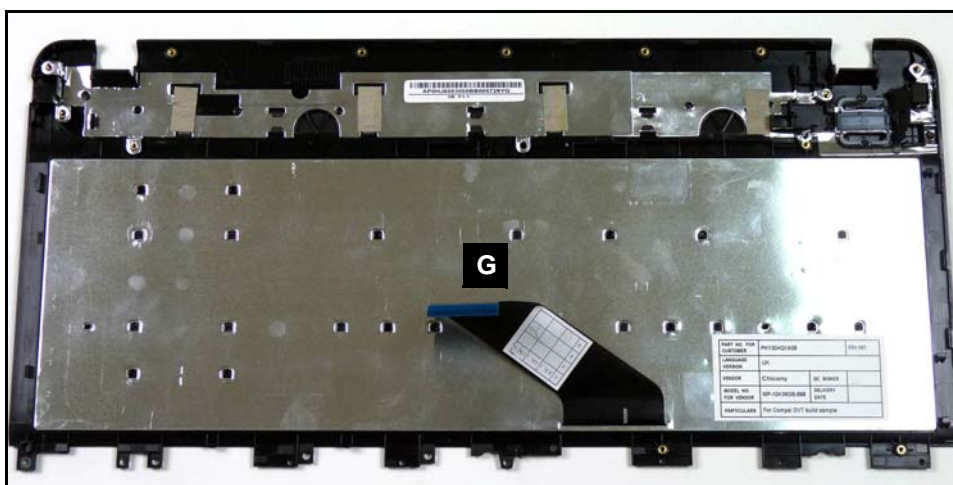

Figure 3-40. Upper Cover without Keyboard Support Plate.
2. Slide keyboard support plate toward top edge (D) of upper cover.
3. Remove keyboard support plate (E) from upper cover.
4. Remove keyboard (G) from upper cover. (Figure 3-40)
1. Install keyboard (G) on upper cover. (Figure 3-40).